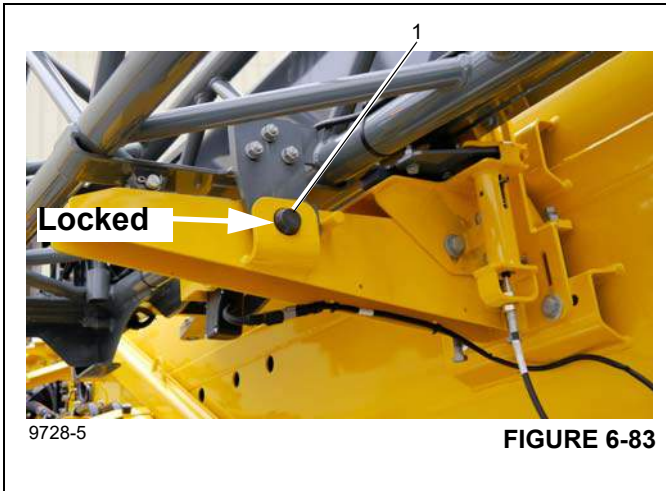

FIGURE 6-83
10. Verify pin #1 is unlocked (1), (Figure 6-83). (Figure 6-83) shows the locked position.